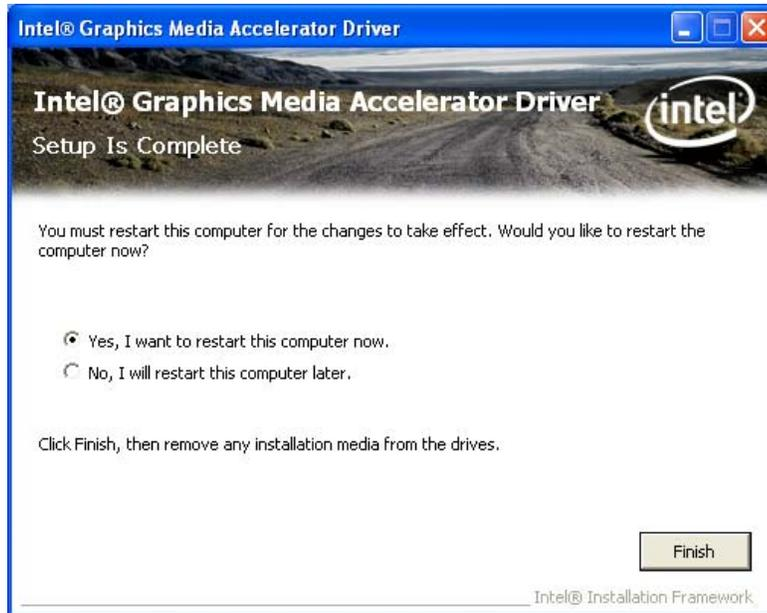

Figure 7-13: Graphics Driver Installation Finish Screen
Step 16: The Finish screen in Figure 7-13 appears.